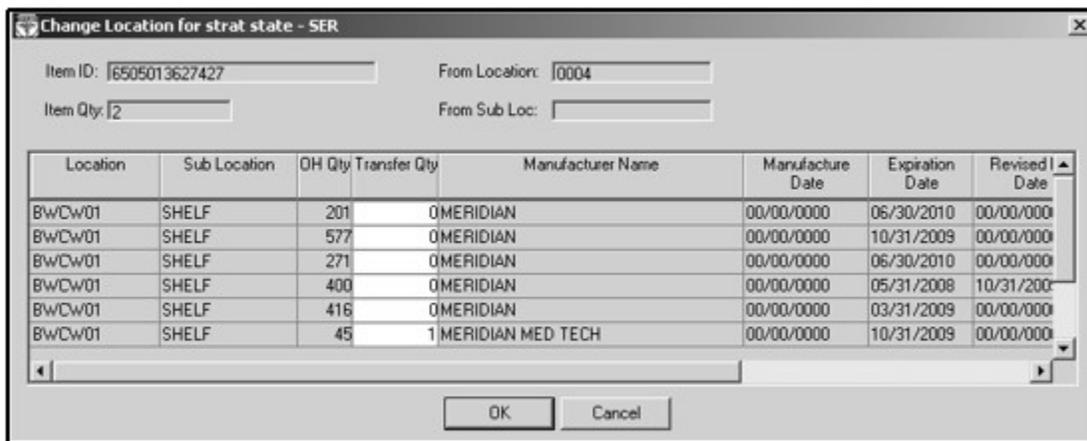

Figure 5. Change Location for Strat State Window
1. Change Location Using Merge Location. Select the location record being merged (the record not being kept) and select the “Merge Loc” icon. In the “Change Location for Strat State” window (Figure 5), enter the transfer Qty into the location record where the materiel is physically located. O/H Qty can be merged into a single location record or multiple location records. Select “OK” to merge the data.